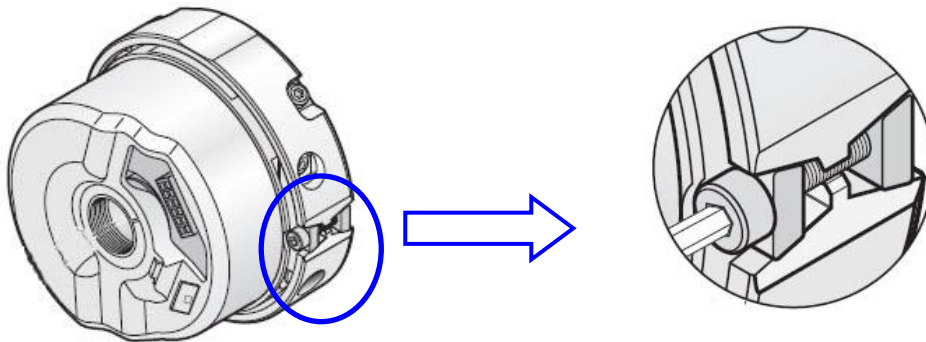

Figure 23: Loosen (do not remove) M2.5 bolt
2. Loosen the bolt M2.5 using the hex wrench 2mm. It does not have to be removed. See Figure 23.